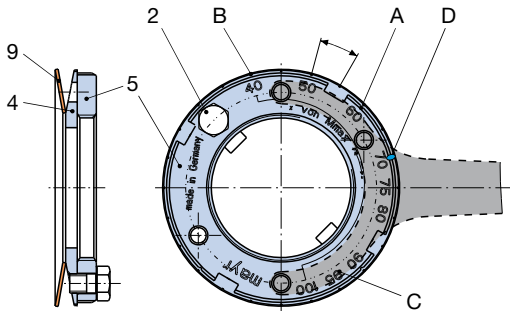
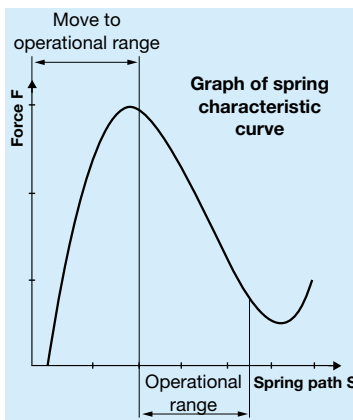

Fig. 1: EAS®-Compact® ratchetting and synchronous clutch
Fig. 3 (The diagram only serves as an example)
The installed cup springs (9) are operated in the negative range of the characteristic curve (Fig. 3). A stronger pre-tension produces a decrease in spring force. Turning the adjusting nut (5) (sizes 03 to 3) or the set screws (6) (sizes 4 and 5) clockwise therefore produces a decrease in spring force. Turning it anti-clockwise produces an increase in torque (facing direction towards the adjusting nut (5) – Figs. 1 and 2).